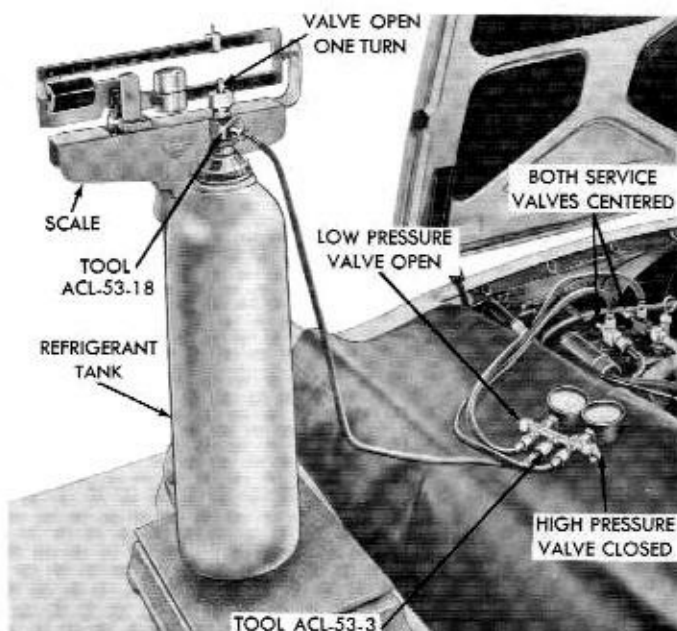

Fig. 2-5—Charging the System—(61LM-8805)
4. Place the tank of refrigerant on a scale and note the weight. Position the valves on the compressor, manifold gauge set, and refrigerant drum as shown in figure 2-5.